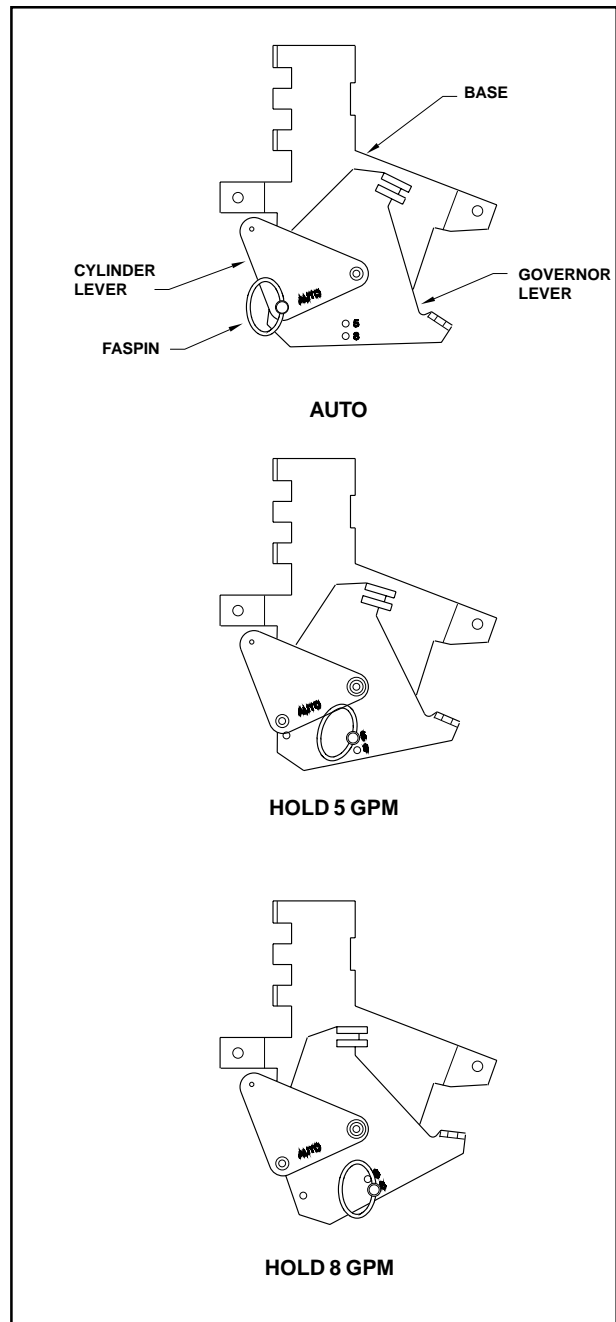

Figure 2. Throttle Control Settings
6. THROTTLE CONTROL (See Figure 2)
2. Select the "AUTO" throttle operating mode by positioning the governor lever to the cylinder lever and inserting the faspin as shown in figure 2.